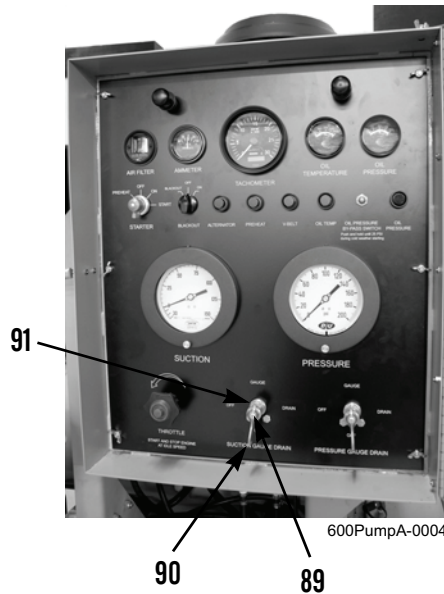

Figure 27. Suction Gauge Drain.
5. Position throttle control cable (Figure 27, Item 82) to bracket (Figure 27, Item 83) and install C-clamp (Figure 27, Item 81) with four new locknuts (Figure 27, Item 79) and bolts (Figure 27, Item 80).
1. Remove screw (Figure 27, Item 89) and handle (Figure 27, Item 90) from suction gauge drain (Figure 27, Item 91).
4. Install handle (Figure 27, Item 90) and screw (Figure 27, Item 89) on suction gauge drain (Figure 27, Item 91).